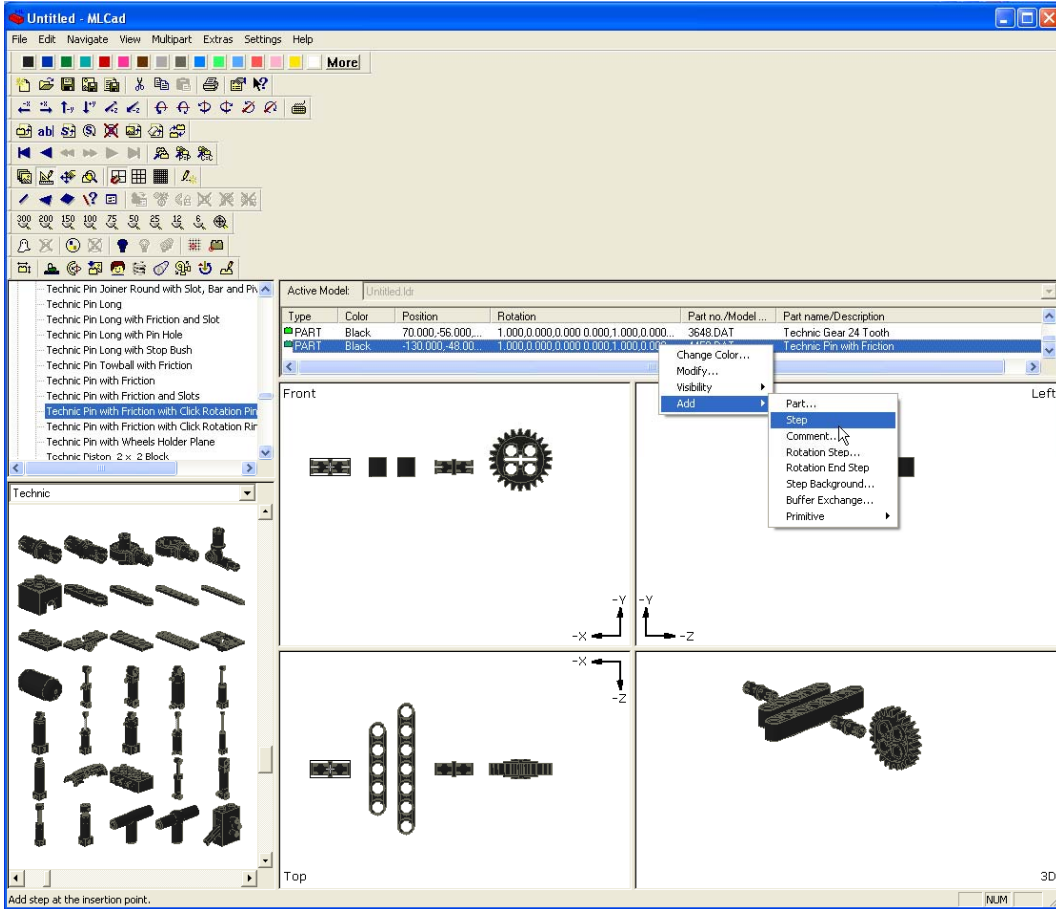

Figure 4A: Establish a “Step” – this is used to create a new graphic depicting the build instructions.
Step 4: Establish a Build Instruction Step. Under the “Active Model” pane, click the last part to highlight it. Right click – Add – Step (see Figure 4A)